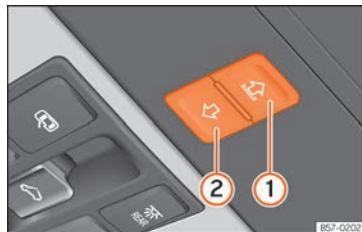

Fig. 94 On the interior roof lining: sunshade blind buttons.
Buttons **»» Fig. 94 ①** and **②** have two levels. The first level opens or closes the sun blind fully or partially.
- **Sun blind:** within approximately 5 seconds of activating the roll-back function, press and hold button **»» Fig. 94**  until the blind is fully closed.